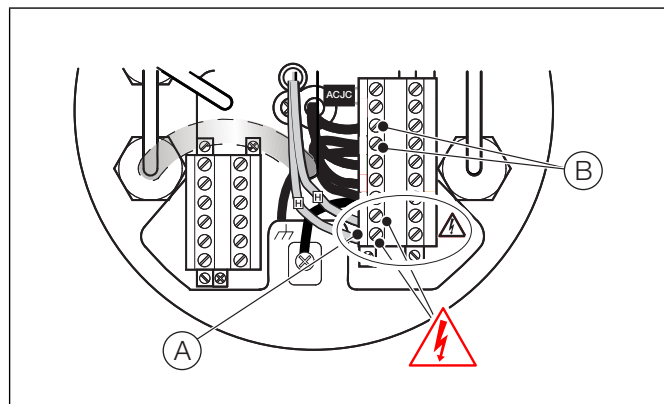

Fig. 4.1 Live Heater Terminals in Probe Head
Warning. Due to the presence of high voltage heater terminals / wires (85 to 265 V) in the probe head the probe's functional checks, must be carried out by suitably trained personnel only – refer to (A) in Fig. 4.1.
Referring to Fig. 4.1: